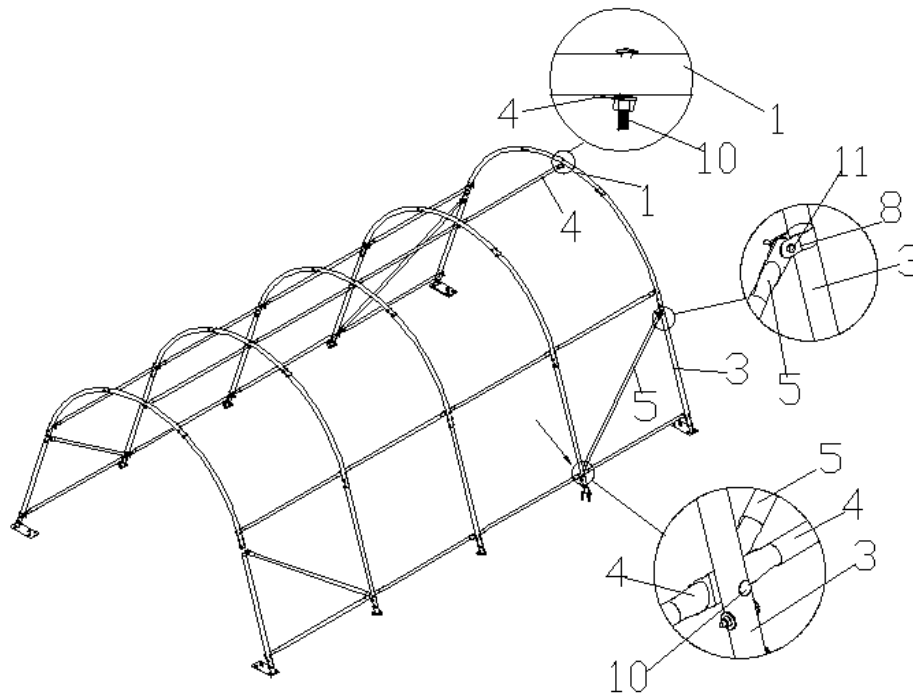

Figure 5
- Install all 5 purlins (#4) on each section, and the two diagonal bracing bars (#5) on the first and last section, use bolt (#10), (#8) and tube clamp (#8). See Figure 5.